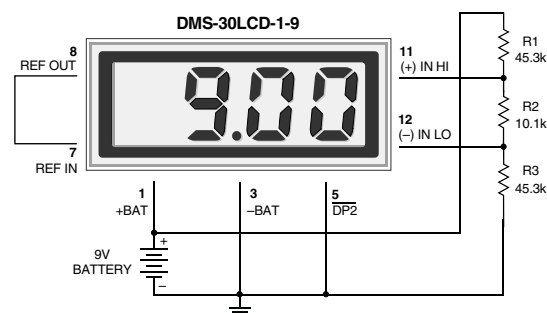

**Figure 8. Power Supply Monitor
- 6. Power Supply Monitoring:** A popular application for DATEL's low-power LCD meters is monitoring the supply voltage in battery-operated portable equipment. Figure 8 demonstrates how a 9V-powered DMS-30LCD can be used to monitor its own supply. The meter used is the DMS-30LCD-1-9. A three-resistor voltage divider is used to attenuate the battery voltage and also to satisfy the requirement that the input voltages applied to pins 12 and 11 be at least 1.5 Volts above and below the battery voltage applied to pins 1 (+BATTERY) and 3 (-BATTERY). The divider should be designed so that 1/10th the battery voltage falls across the inputs to the meter: